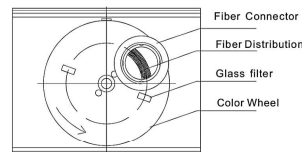

Fig.3
4. Insert the whole light engine connector into the fiber fixing set, keeping the centre of arc in the connector and glass filter center coincident, then screw the nut tightly(see Fig.3)